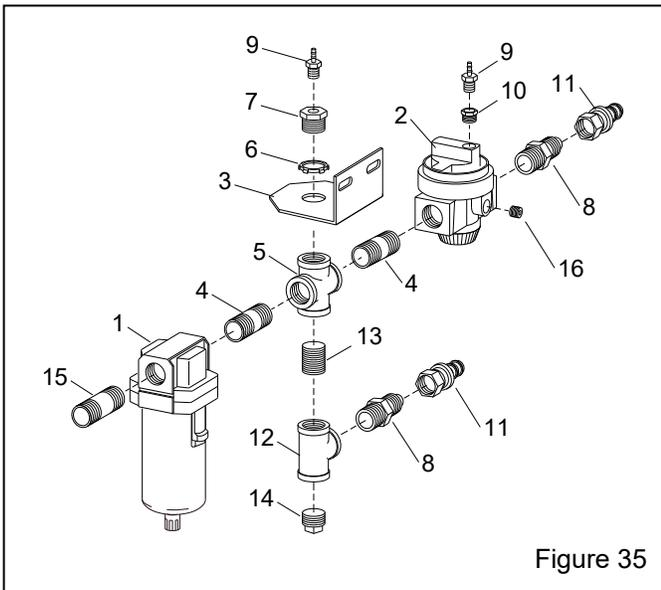

Figure 35
Refer to Figure 35 for parts .....	12763
9.4 Inlet-Air Regulator Assembly – Figure 35